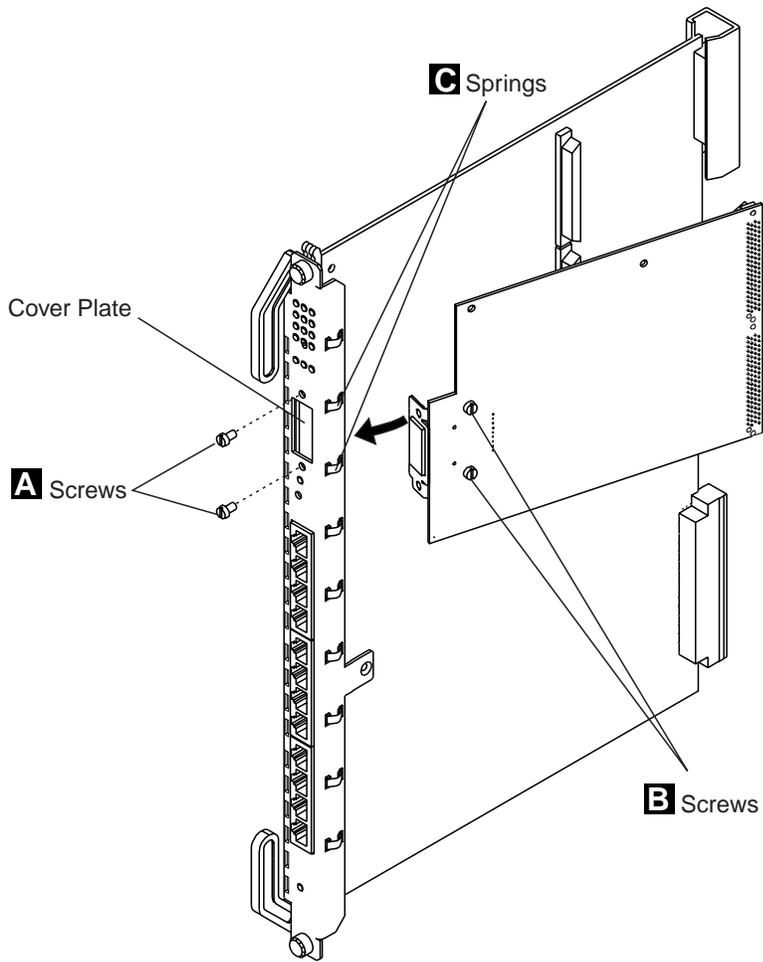

Figure 24. Installing a 155 Mbps I/O Card on the 25 Mbps Module Motherboard
When installing an I/O card on the motherboard, be careful not to touch its components. Always hold the card by the faceplate or by its edges as shown in Figure 24 on page 92.
- **1** Remove the cover plate from the port opening on the module faceplate by removing the two screws (**A** in Figure 24 on page 92). Keep the screws in a safe place.